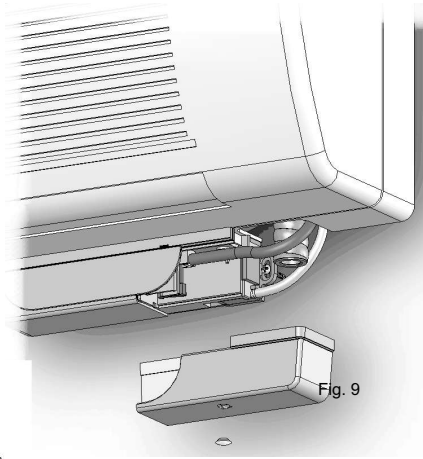

Fig. 9
3. While supporting the tray, loosen the captive screw (approx 5 turns) , lower the tray taking care not to spill any of its contents. Fig. 9